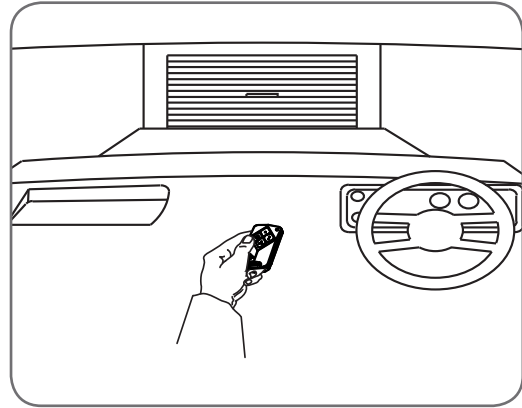

Fig. 49
- If you are in a vehicle you should aim the transmitter through your windscreen (Fig. 49).